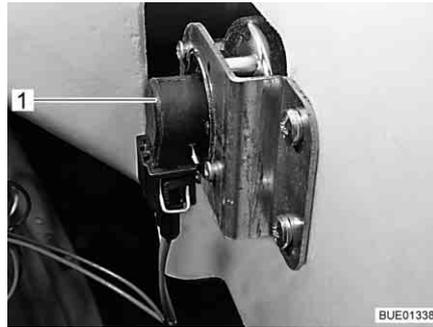

Fig. 266 Direction indicator
- Put your hand behind the lamp holder (Fig. 266,1).